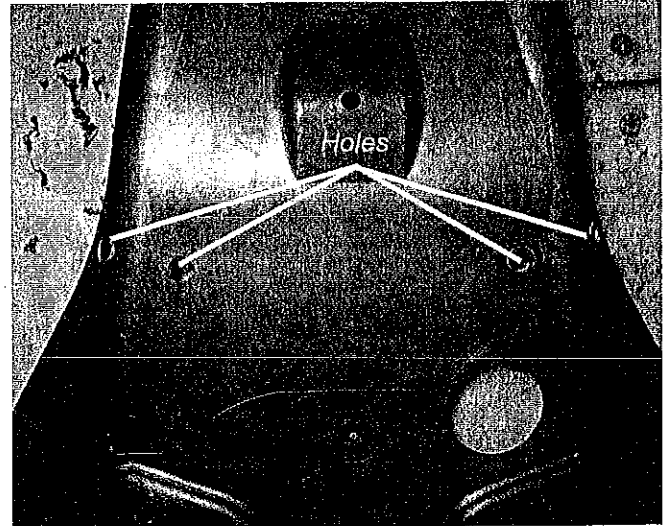

Figure 7 - Skid Plate Holes
7. Mark the location of the u-bolts, as noted in step 6, on the slots scribed onto the skid plate. Use the marks as reference to drill four clearance holes for the u-bolts in the plastic skid plate, figure 7.